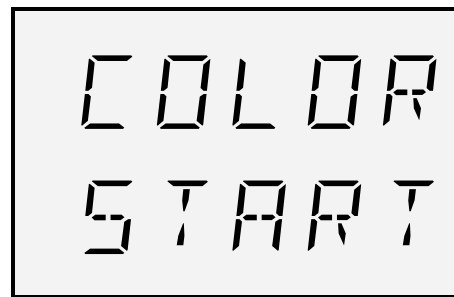

Fig. 13: View "colour light start"
7. Exit the menu using the **←** key. The view "colour light start" (Fig. 13) is displayed.